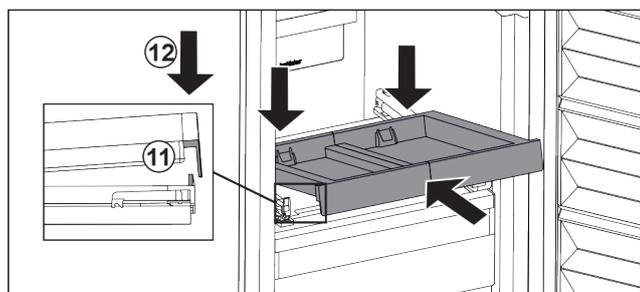

Fig. 29
- ▶ Slide in at an angle. Make sure that the stop is behind the lug on both sides. Fig. 29 (11)
- ▶ Lower the pull-out board at the front. Fig. 29 (12)